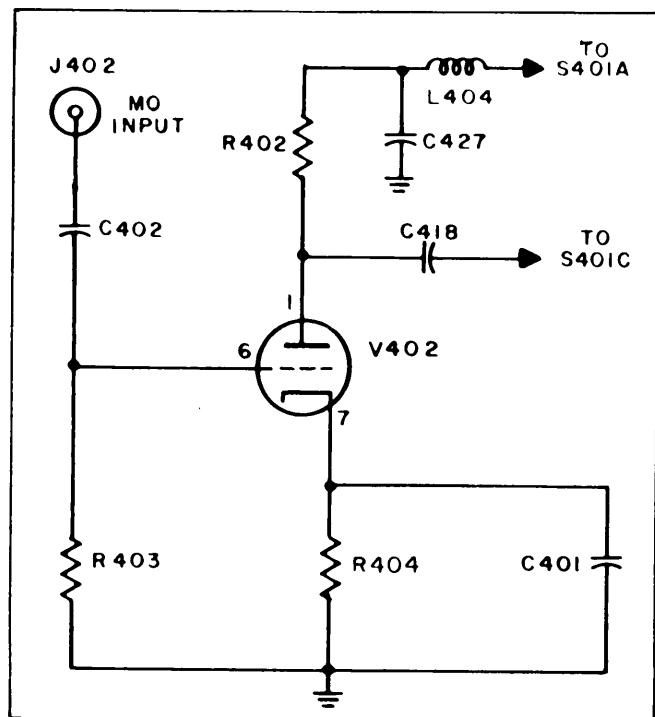

Figure 4-3. Buffer Stage, Simplified Schematic Diagram
(4) BUFFER. - Tube V402 is provided as a buffer at the output of the master oscillator circuit for additional isolation. (See figure 4-3.) Tube V402 is connected as a broadband amplifier. Coil L404 is used as a B+ filter with capacitor C427 as a B+ bypass. The output of V302B is applied through C402 to the grid. Cathode bias is developed by R406 and C401. The output from the plate is coupled through capacitor C418 to the input V403 through S401C when the switch is in the MO position.
(5) CRYSTAL OSCILLATOR-AMPLIFIER.